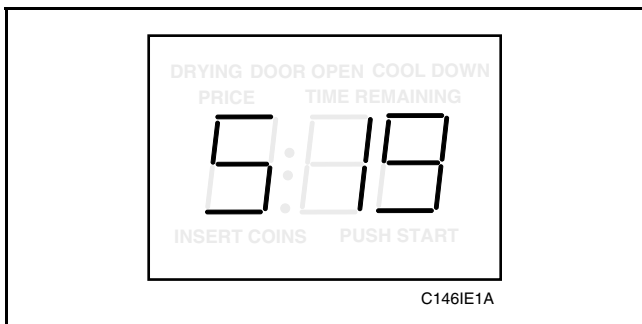

Figure 61
2. While pressing and holding the HIGH TEMP pad with one hand, press the MED TEMP pad with the other hand. Programmable option number 1, (Audio Signal “SIg”), will appear in the VFD, *Figure 61*.